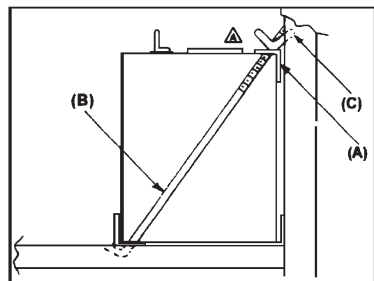
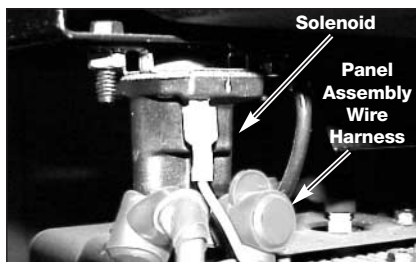

Figure 3
Figure 4
2. Place battery bracket (A) over battery as shown in Figure 3 (opposite battery terminals).
3. Place "L" bolt (B) through top and bottom brackets and secure with wing nut (C).
4. Locate the solenoid on the left side of the unit. See Figure 4 and 5.
5. Remove the nut from the solenoid post with the panel assembly wire harness. Place one end of the positive (red) battery cable onto this post with the panel assembly wire. Reassemble nut and tighten securely. See Figure 4.